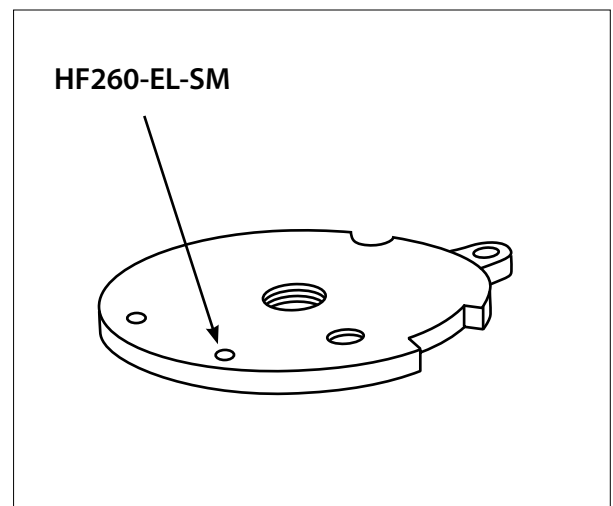

Fig. 9. Fastening of the emergency stop bar
5. On the HF260-EL-SM model, the adapter bar of the emergency stop bar is attached to the coupling disk at the position shown in fig. 9.